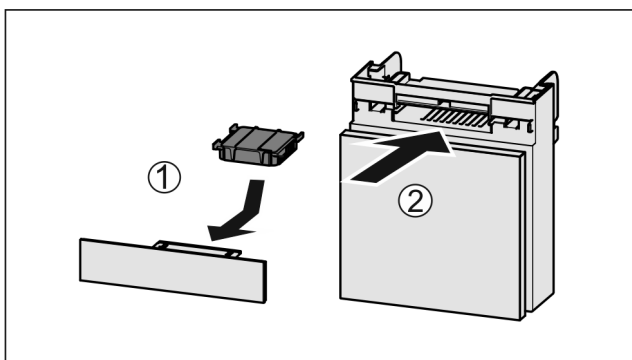

Fig. 234
- ▶ Insert the carbon filter as shown in the diagram Fig. 234 (1).
- ▶ Push the compartment in Fig. 234 (2).